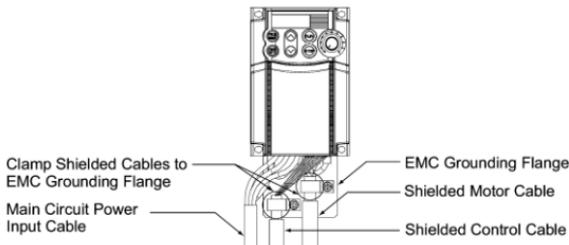

Figure 11.2 Connecting Shielded Cables
- 2) Use shielded wires for the motor cable and route it as short as possible. Firmly clamp the wire shield to the EMC grounding flange to ground it. Further, connect the wire shield electrically to the grounding terminal of the motor. (See Figure 11.2.)